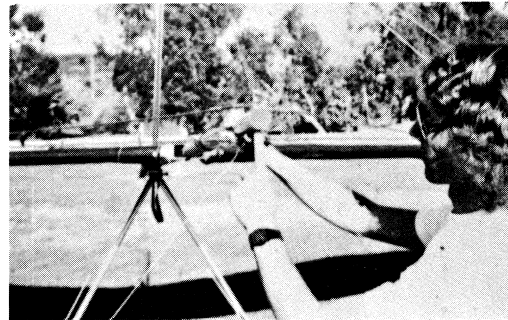

Fig. 13
(13) Sight the front bowsprit bolt to assure its vertical alignment (See Fig. 13). Actuate the "quickam" tensioning device on the bowsprit to tighten the flying wire assemblies into flight position. *NOTE: The side flying wires will remain loose due to the unique design of the Mosquito polycylindrical wing.*